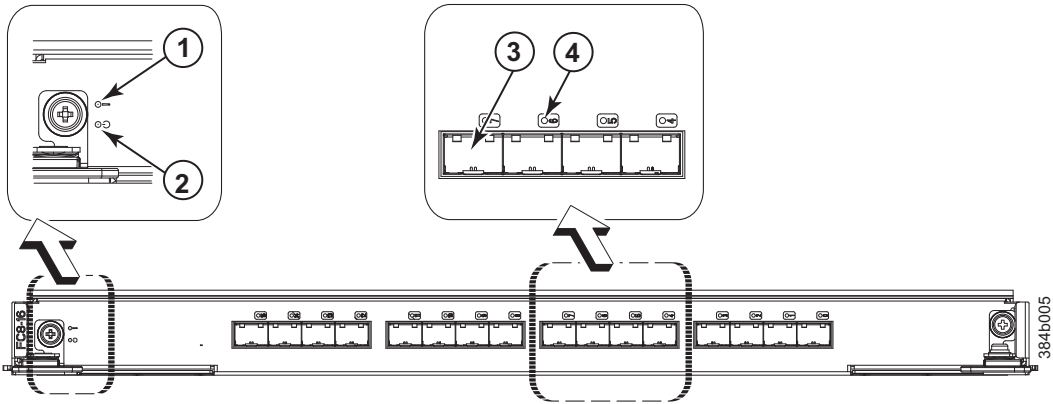

Figure 19. FC8-16 port blade
- Figure 19 on page 50 illustrates the FC8-16 port blade